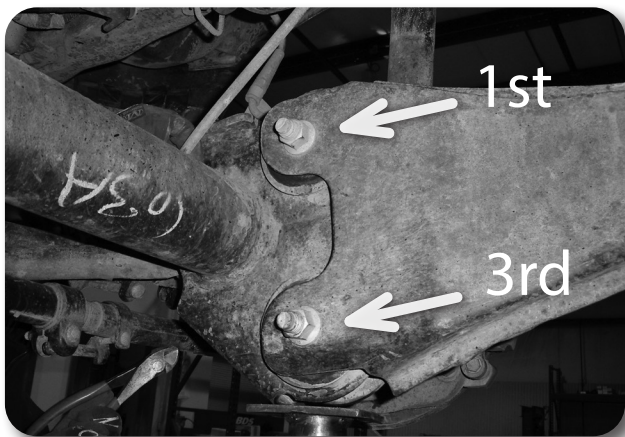

Figure 10
24. Locate and loosen the 4 radius arm mounting bolts at the axle. **Figure 10** Once again make sure that the axle is well supported by a jack.